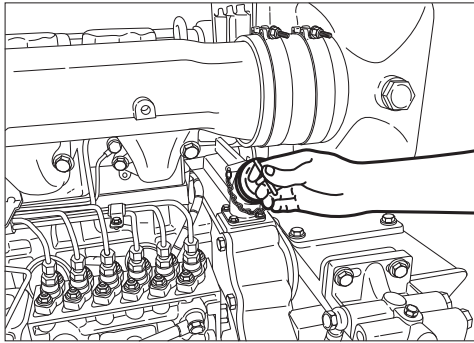

Figure 4.4
2. Engine oil can be filled from the filling port provided near the Fuel Injection Pump. Refer figure 4.4,4.5 & 4.6